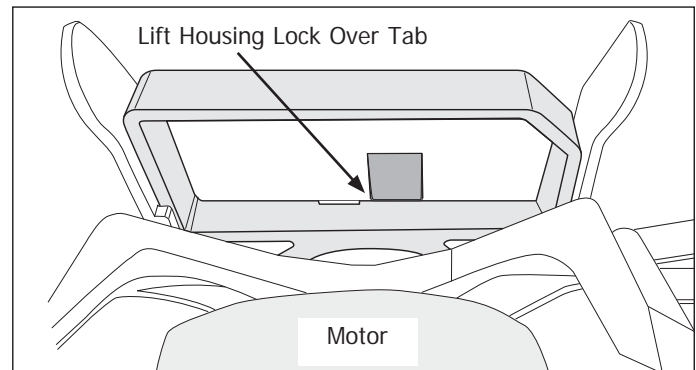

Figure 4-35.
4. Using a small flat bladed screwdriver, lift the blower housing lock over the tab and pull out of slot. (See Figure 4-35)